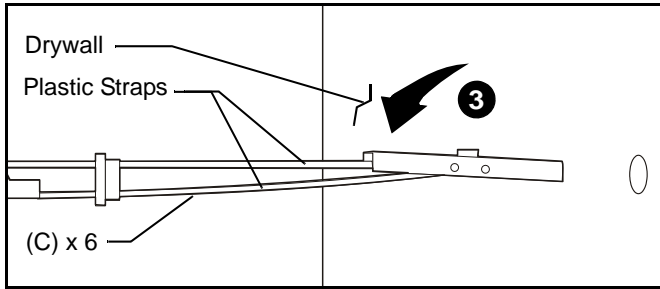

Figure 4
3. Hold metal channel on anchor (C) flat alongside plastic straps and slide channel through hole. (See Figure 4)